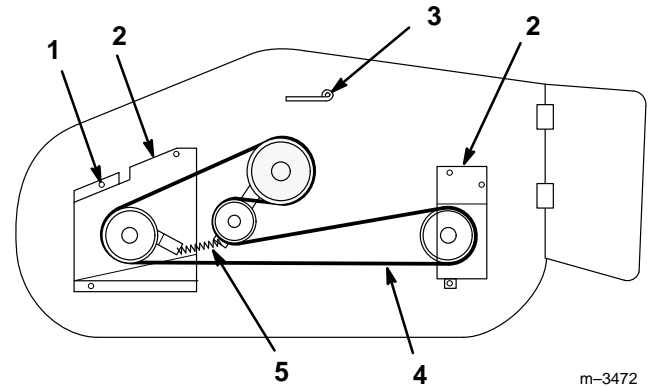

Figure 36
2. Remove the pulley cover mounting screws and pulley covers from the blade pulleys (Fig. 36).
3. Release the spring (Fig. 36).
4. Remove the belt from the pulleys (Fig. 36).
2. Attach the spring (Fig. 36).
3. Install the left and right pulley covers with the mounting screws (Fig. 36).